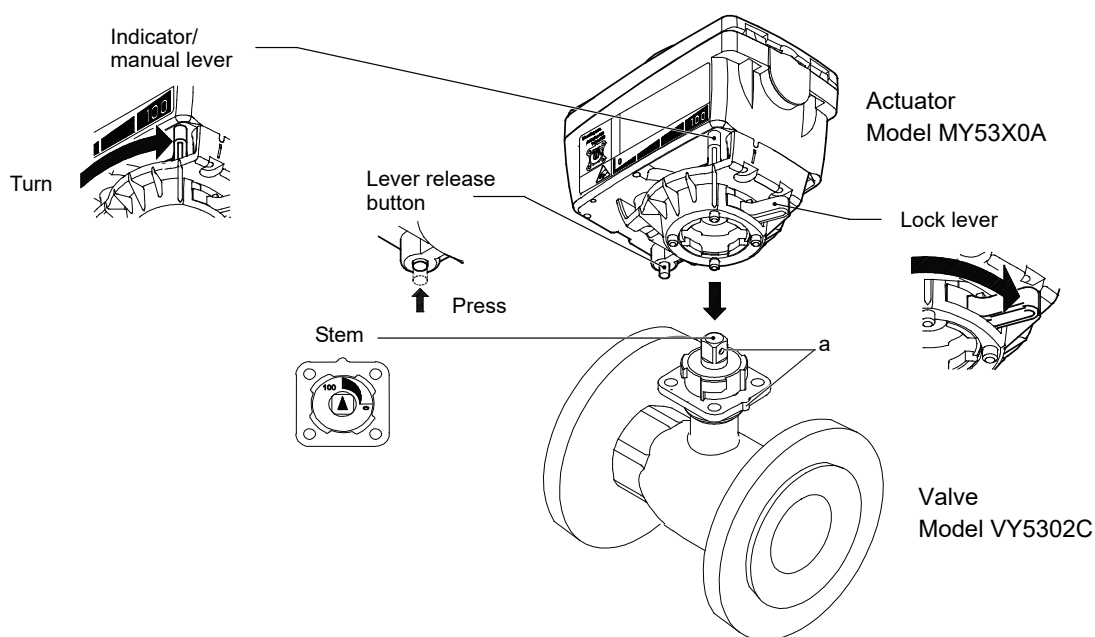

Figure 5 Mounting the Actuator onto the Valve
- The actuator can be horizontally rotated every 90 degrees to fit into the valve mounting position. Refer to Figure 5 and make sure that the actuator and the valve look as shown (fully open position) before shipping.
(See "a" in Figure 5)
- (3) Make sure that the arrow on the top of the valve stem points at "100". When the valve is fully open, a hole on the side of the stem faces in the direction of the tip of the valve joint surface (with the actuator). ("a" in Figure 5)